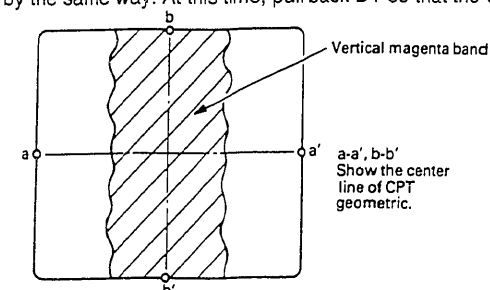

Fig. 2-1-3A
- (1) Adjust Focus coarsely according to item 2-2.
- (2) Adjust Convergence coarsely according to item 2-1-4.
- (3) Receive a TV Broadcast signal and check that the PICTURE and BRIGHT LEVEL are max..
- (4) Receive the Magenta signal when the Magenta signal is not available, short-circuit between the base and emitter of Q855 to set to Magenta.
- (5) Press DY fully against CPT funnel and turn the Purity magnet so that the vertical Magenta band comes to the center of the picture. (Fig. 2-1-3A)